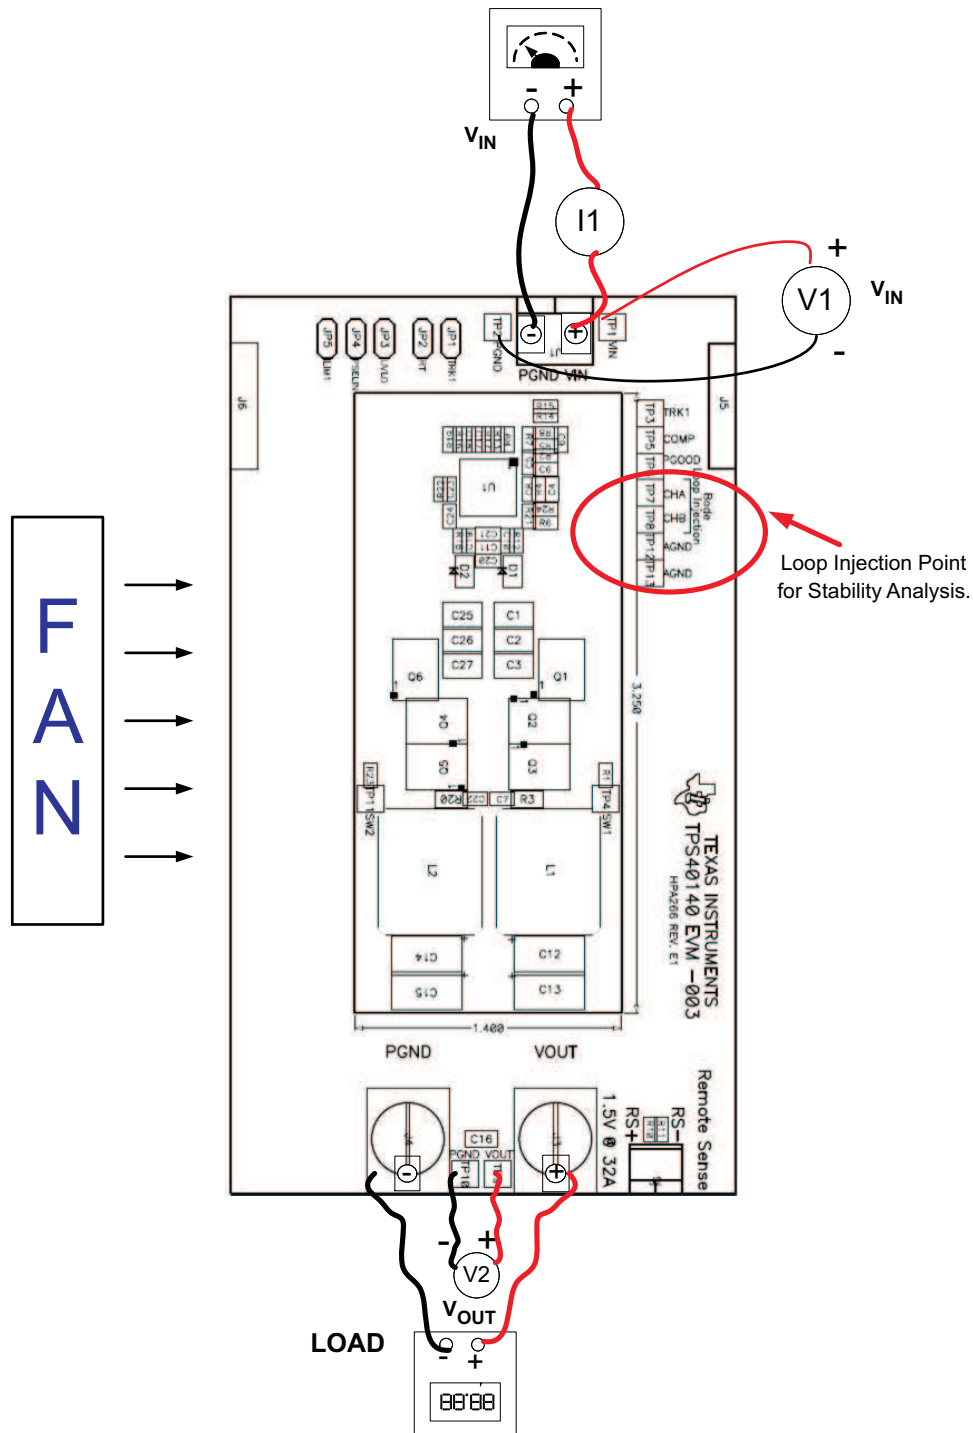

Figure 2. TPS40140EVM-003 Recommended Test Set-Up
The input voltage source (V_{IN}) should be a 0–15V variable DC source capable of 10 Adc. Connect V_{IN} to J1 as shown in Figure 2.
Shown in Figure 2 is the basic test set up recommended to evaluate the TPS40140EVM-003.
1. Prior to connecting the DC input source, V_{IN} , it is advisable to limit the source current from VIN to 6A maximum. Make sure V_{IN} is initially set to 0V and connected as shown in Figure 2.
2. Connect voltmeter, V2, across TP9 and TP10, as shown in Figure 2.
1. Place Fan as shown in Figure 2 and turn on, making sure air is flowing across the EVM.